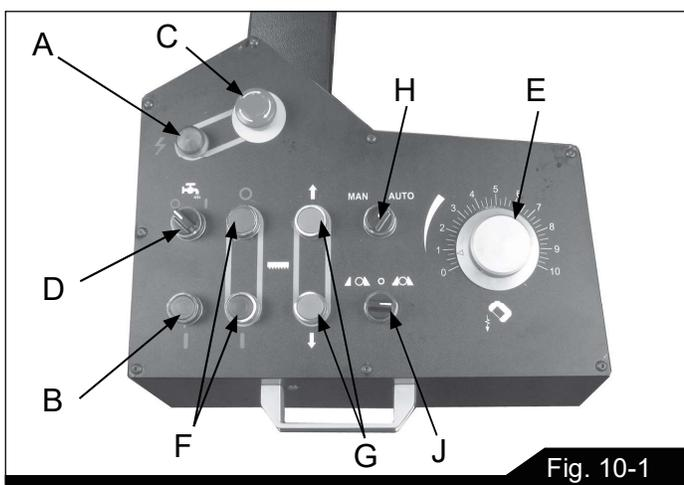
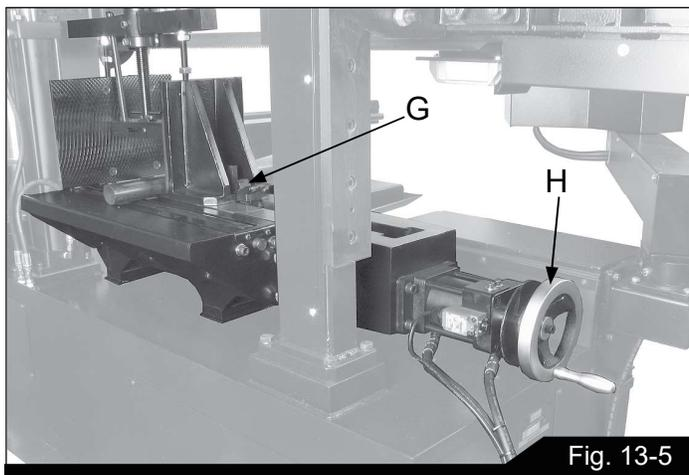

Fig. 10-1
Fig. 13-5
Refer to Figure 10-1.
Rate of feed is adjusted with control dial (E, Fig. 10-1).
1. Place workpiece in cutting position. Lift up pawl (G, Fig. 13-5) and slide jaw close to workpiece.
2. Turn handwheel (H) clockwise for a fine adjustment to create a 5 to 6 mm (1/4 in.) gap with workpiece.
3. Turn clamp switch (see J, Fig. 10-1) to the right to clamp the workpiece.
5. Release clamping pressure via the switch (J, Fig. 10-1).
6. Lift pawl (G) and manually retract vise jaw.
Note: Figure 13-5 shows the 891161 Bundling Kit mounted (optional accessory, see our website).